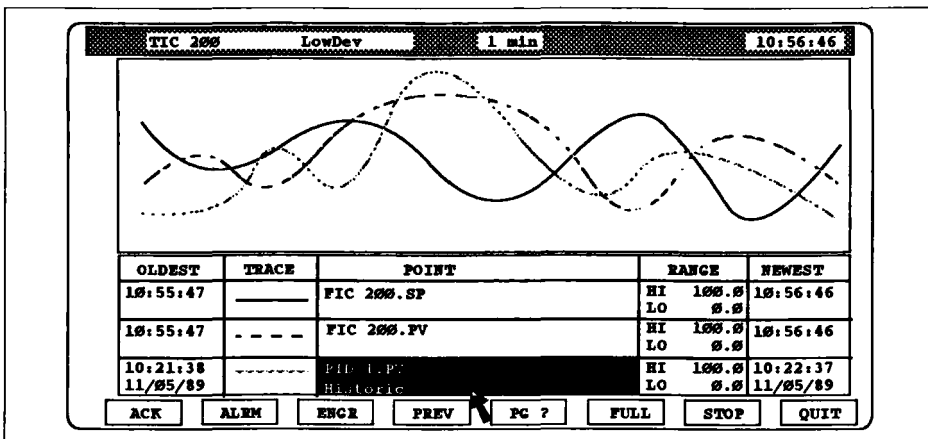

Figure 5.5 Longterm Trend Window (Example)
**Accessing the Longterm Trend Window.** The longterm trend window is accessed from the normal runtime screen via the PG? softkey. Figure 5.5 shows a window configured with three traces. Two new softkeys — FULL, and STOP — replace the regular PG→ and PG! keys.